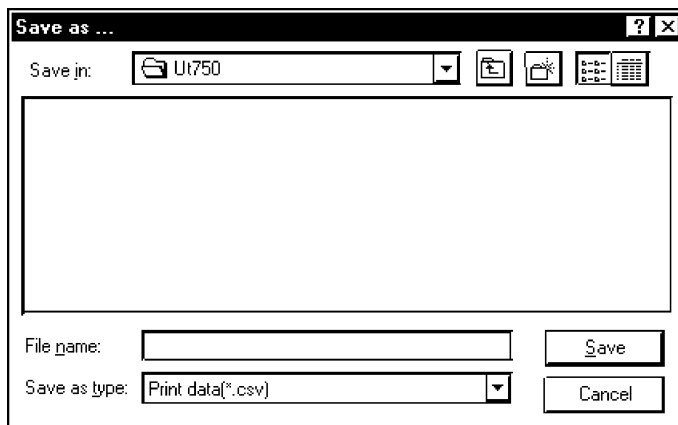

Figure 7.3.1 Save As Dialog Box (Example of UT750)
- (2) Click **Output to file**. The Save As dialog box (Figure 7.3.1) opens.
- (3) In the **File name** text box, type a file name (within 16 alphanumeric characters) then click **Save**.